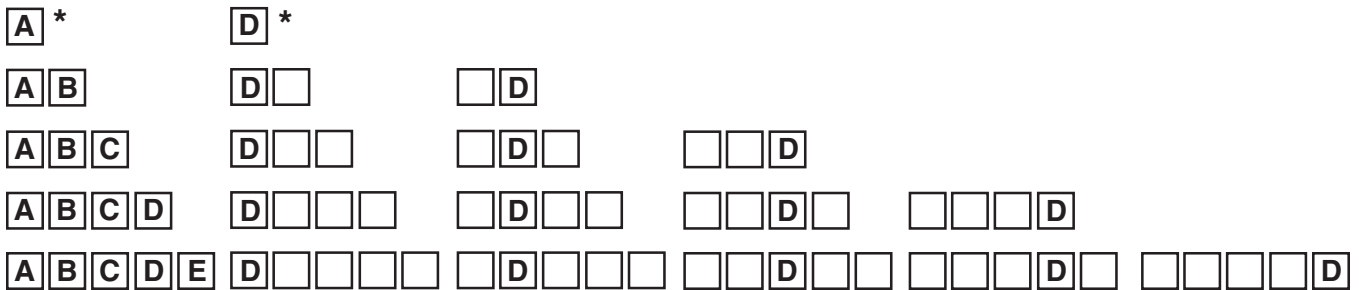

Fig. 1
- Batteries can be configured with any HG Series Fryer or Frymate Dump Station; only one Frymate Dump Station per battery (Fig. 1).